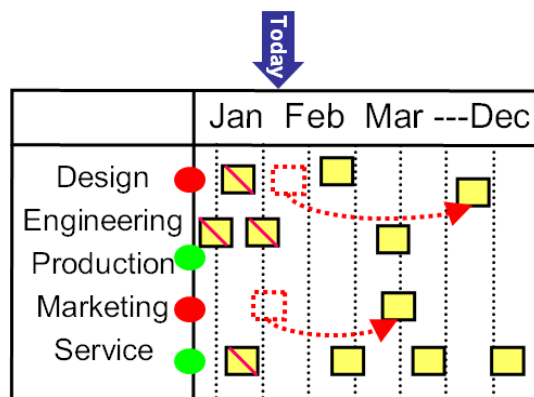

Figure 3
- On the next wall, the Concurrent Schedule Board (figure 3), or activity board, shows the activity of all project members or teams: Marketing, Design, Engineering, Production, Logistics, Sales, and sometimes suppliers.